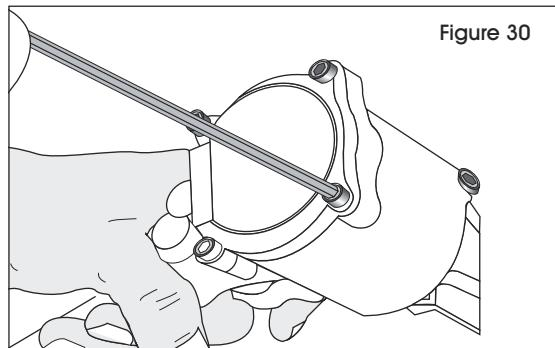

Figure 30
7. Loosen screws with a 3 mm Allen wrench and remove the cap. (See Figure 30)